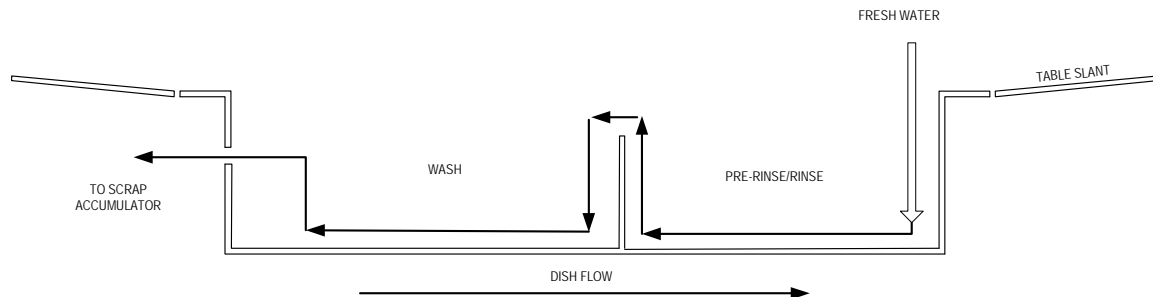

Figure 2.2.3a
1. Tables must slant into the machine for proper drainage (for each 28" of table length a drop of at least ¾" in table height is recommended). See **Figure 2.2.3a**.